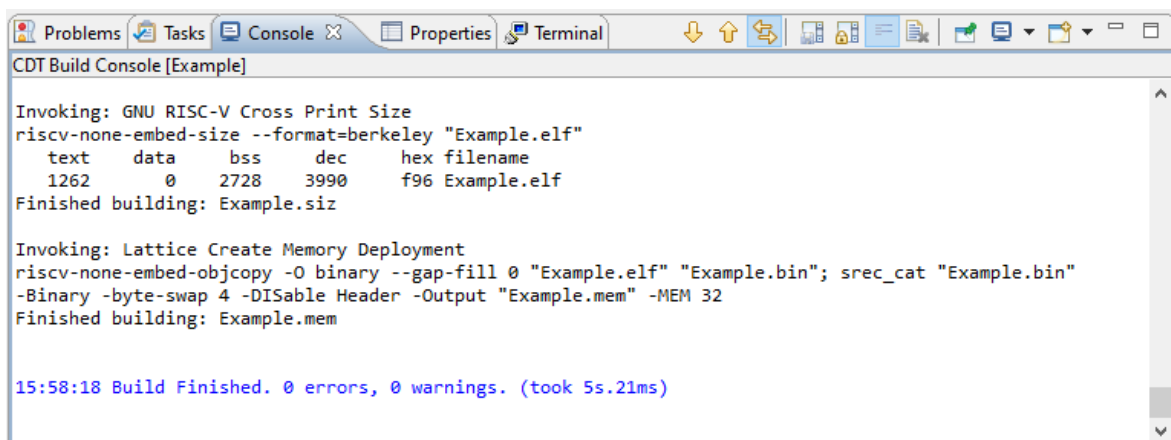

Figure 3.30. Build Result of C/C++ Project
4. The results of the build command are displayed in the **Console** view (Figure 3.30).